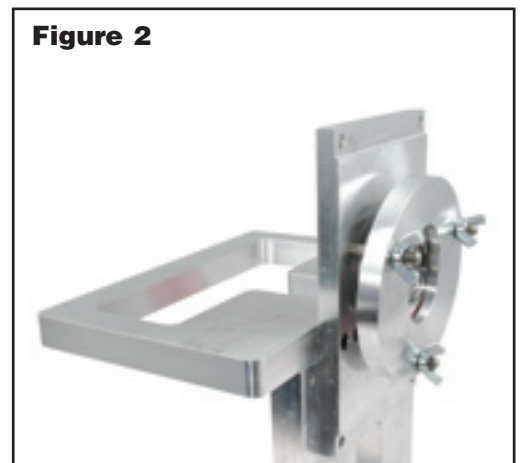

Figure 2
3. Using the 4 socket cap screws, attach the standard base plate or the optional oversized VB-06 base plate as shown in Figure 2. Align the front plate square to the base plate.